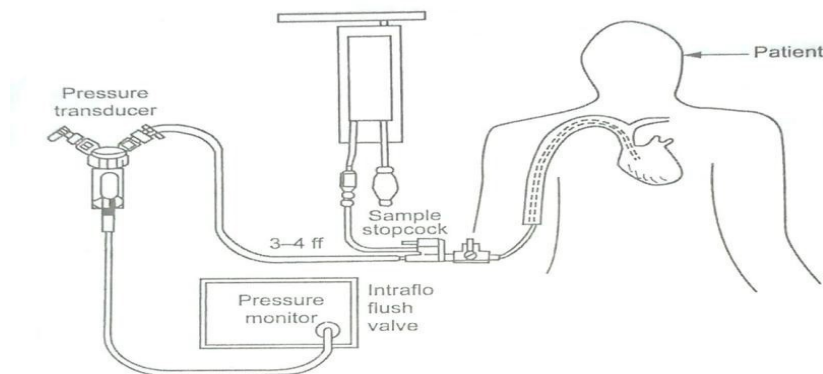

Fig.4.5 Direct blood pressure measurement
- A typical set up of a fluid filled system for measuring blood pressure is shown in Fig.4.5